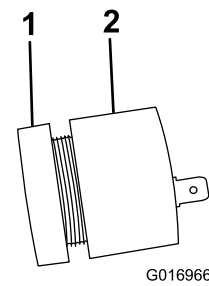
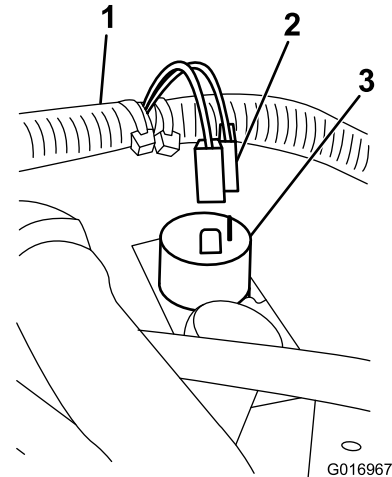

Figure 7
Figure 8
4. Loosely screw the retaining ring on to the alarm (Figure 7), and slide it in to the hole in the mount plate (Figure 8).
6. On the main wiring harness locate the right angle plug and connect it to the alarm (Figure 8).